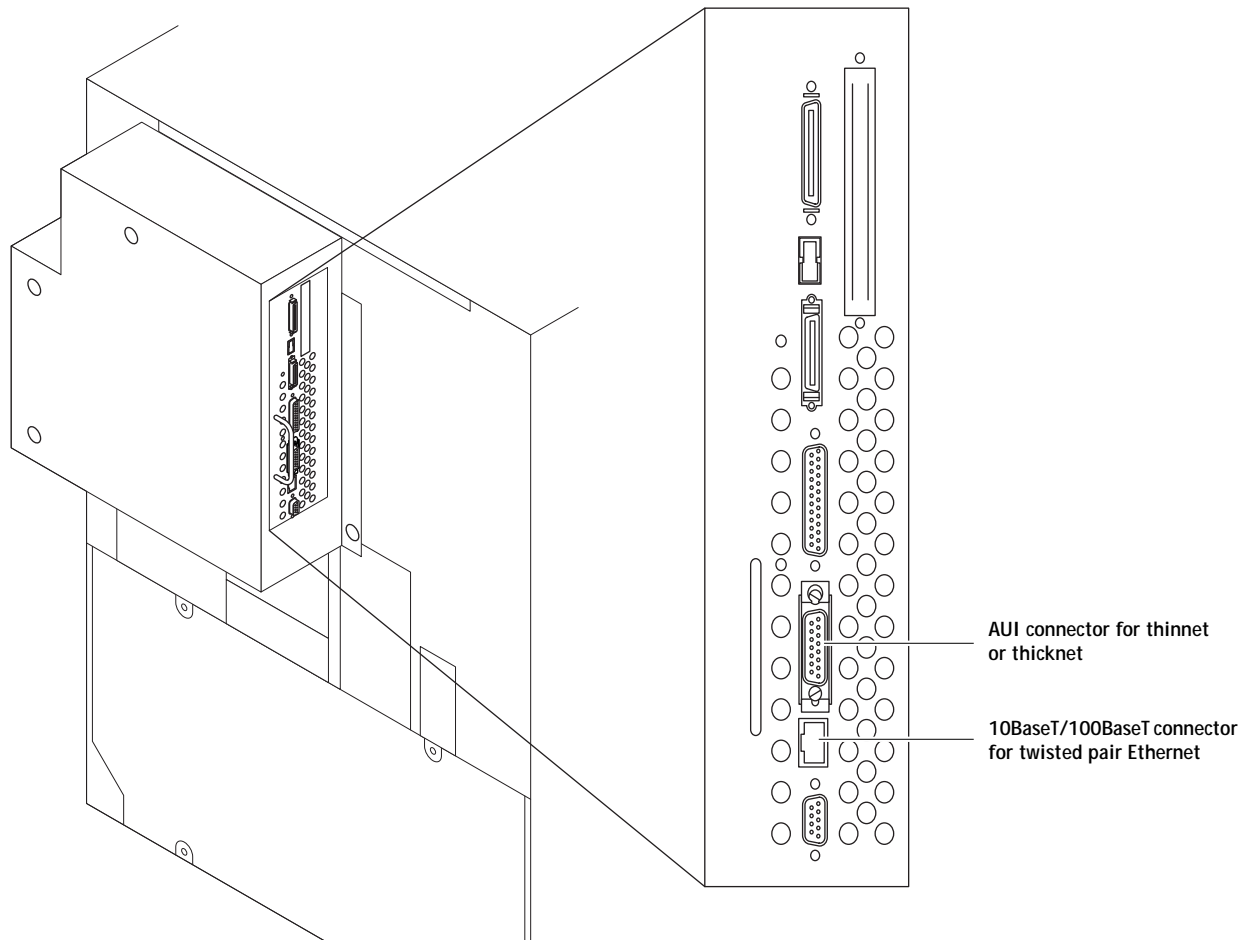

FIGURE 2-8 E-300 network connectors
- A 10BaseT/100BaseT RJ-45 connector for attaching a Category 3 or Category 5 unshielded twisted pair (UTP) network cable (see Figure 2-8). Category 5 is required for 100BaseT.